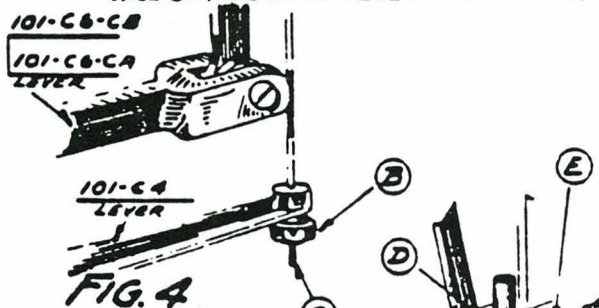
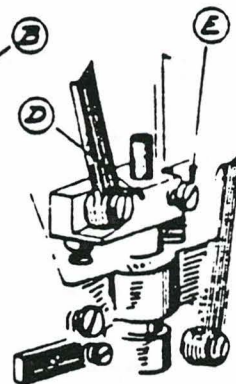

FIG. 4
FIG. 5
THE POSITION OF THE NEEDLE AS THE LOOPERS AND SPREADERS ARE BACKING AWAY IS AS SHOWN IN FIG. 3. IT IS IMPORTANT THAT THE SPACE BETWEEN THE NEEDLE AND SPREADERS IS EQUAL FOR EACH SPREADER. THIS ADJUSTMENT CAN BE MADE WITH NUT (B) ON CONNECTION (C) FIG. 4 - NOTE WHEN THE LIMIT OF THE THREAD (C) IS REACHED, AN ADDITIONAL ADJUSTMENT IS PROVIDED AS SHOWN IN FIG 5 - LOOSEN SCREW (E) AND RAISE OR LOWER CROSSHEAD (D) ADJUST AGAIN AS IN FIG. 4